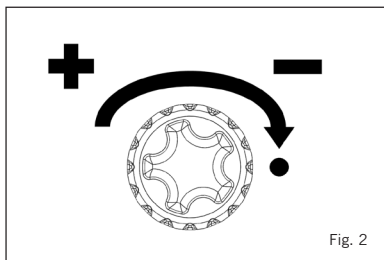

Fig. 2
- Turn the control knob on the Power Pak anti-clockwise to increase the gas flow (Fig. 2).